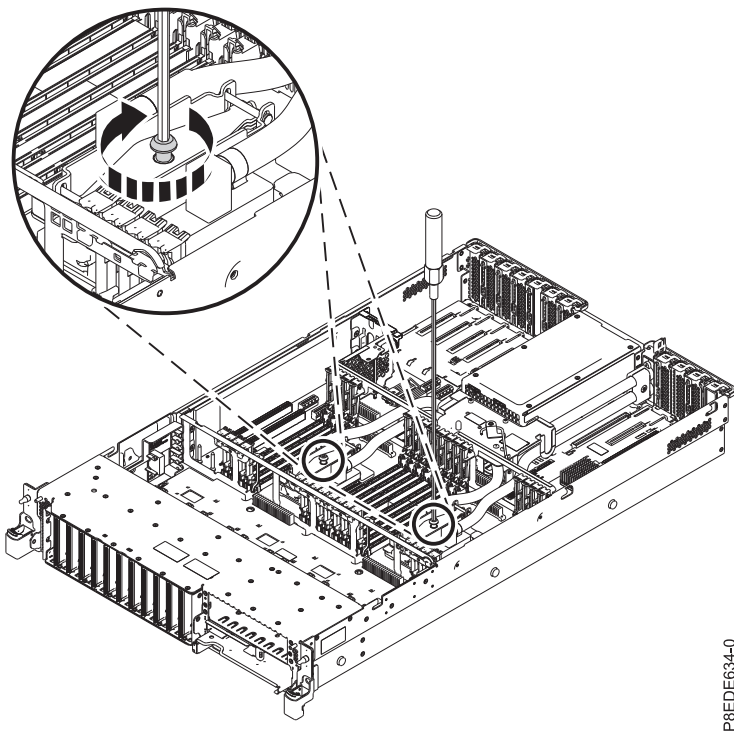

Figure 42. Tightening the cold plate retainer screw
- b. Tighten the cold plate retainer screw with a 4 mm or 5/32 inch Allen wrench, as shown in Figure 42.